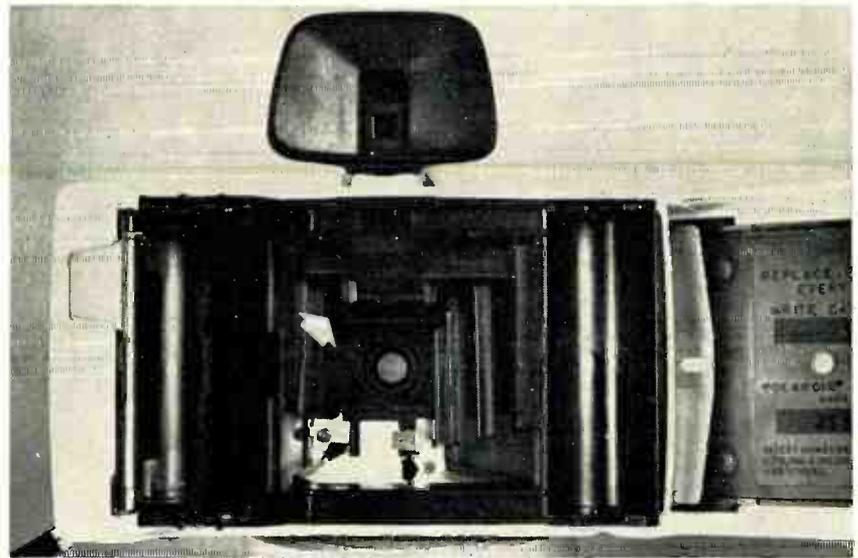

Fig. 6. Inside of camera. Arrows indicate which screws are to be removed.
- b. Remove three small Phillips-head screws which hold the front of the camera to the body (Fig. 6).